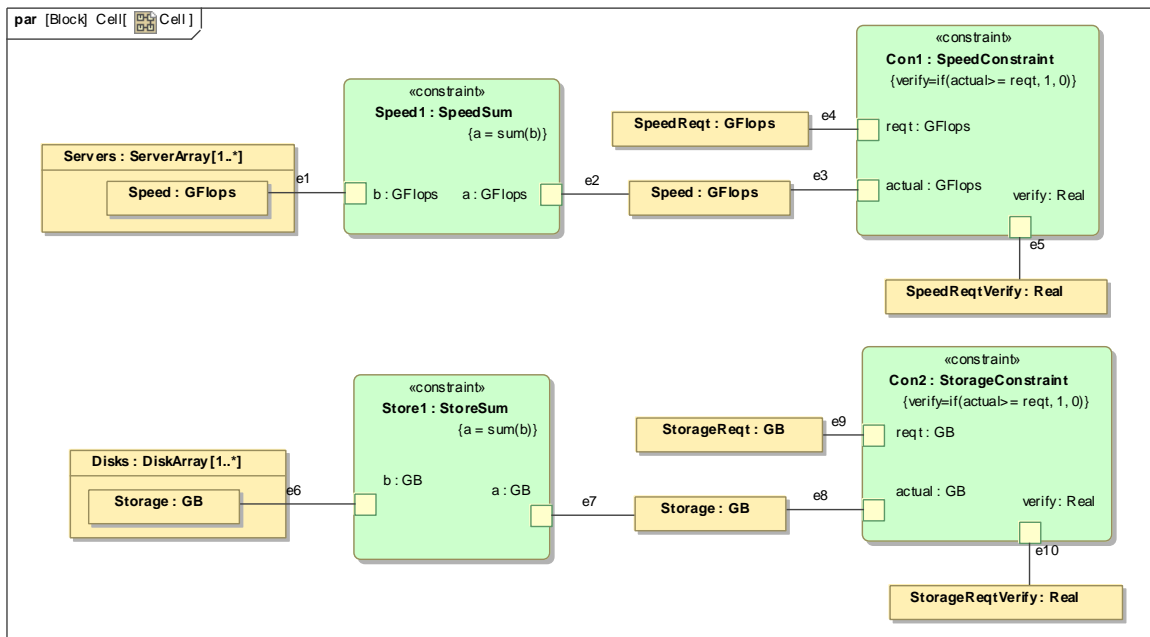

Figure 9.6 Parametric diagram for Cell
7. Create a second SysML Parametric diagram to define and display the calculation of the requirements verification relationships inside Cell (Figure 9.6). This appears like a doubling of the Height requirement checking, with one branch for calculating speed of the Servers and another for the storage capacity of the Disks. Note that the Speed and Storage Requirements are left as variables, where the Height Requirement was “hard-coded” as 1000 in the constraint. In this project, each configuration (instance) of the system will have different speed and storage needs, while racks are of a standard size.